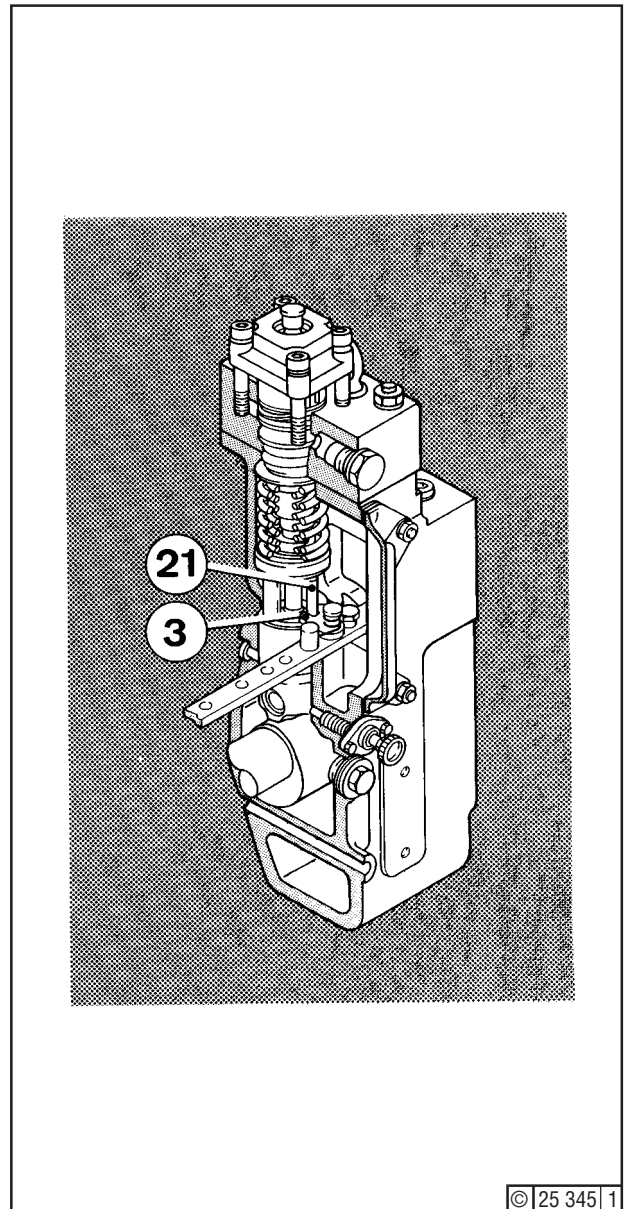

Fig. 3
The installation of the control rod is carried out in the reverse order to removal. Introduce the rod into the pump case, seeing to it that the adjusting pins (21) engage in the forks (3) - Fig. 3-